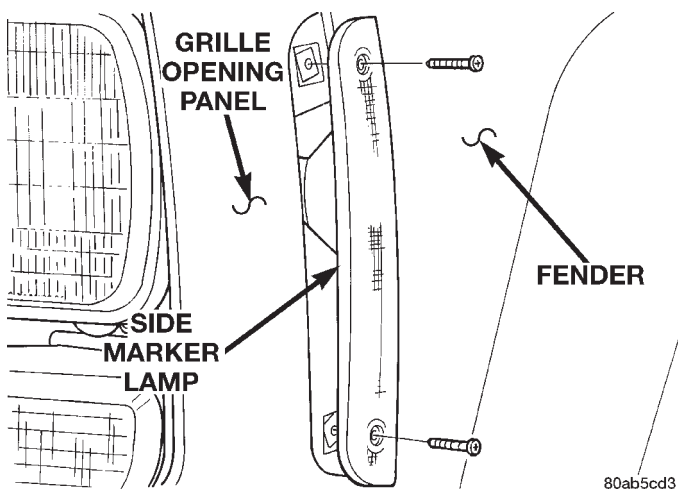

Fig. 4 Side Marker Lamp
- (1) Remove screws attaching side marker lamp lens to grille opening panel (Fig. 4).
- (2) Remove bulb and socket from back side of lamp.